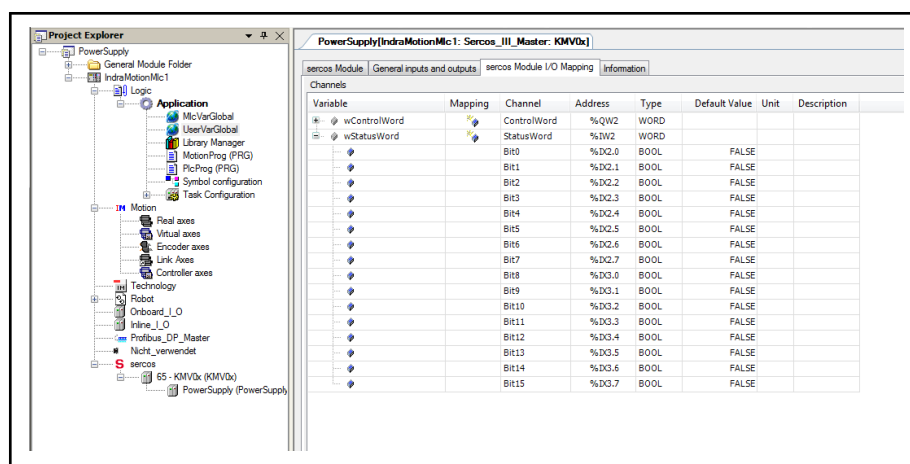

Fig. 6-94: Assigning PLC variables to the configured parameters
The entered name is subsequently output in the "Channel" column in fig. 6-94 "Assigning PLC variables to the configured parameters" on page 320.
4. Enter more parameters until all parameters are configured as shown in fig. 6-94 "Assigning PLC variables to the configured parameters" on page 320.